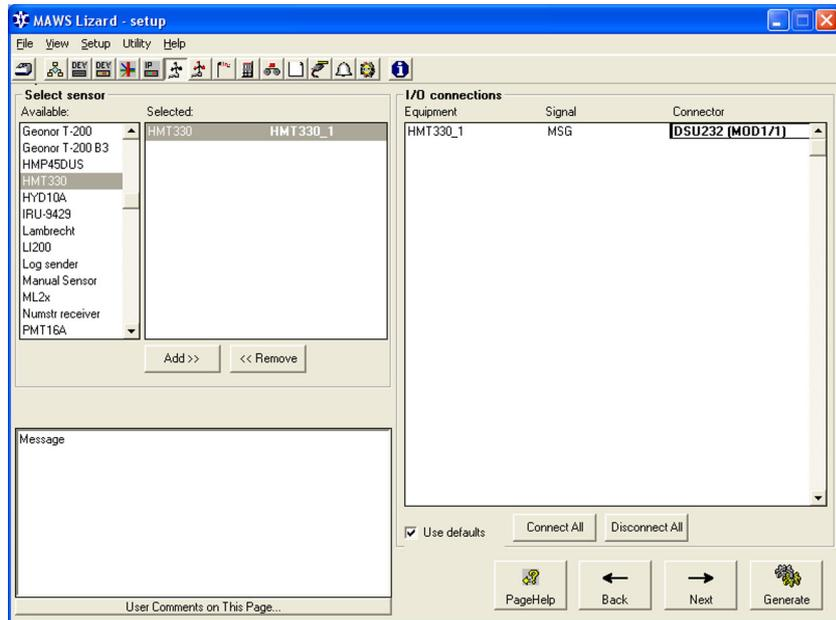

Figure 33 Equipment View: Selecting I/O Connection for Humidity and Temperature Transmitter
2. Proceed to the **Equipment** view; see Figure 33 on page 76.